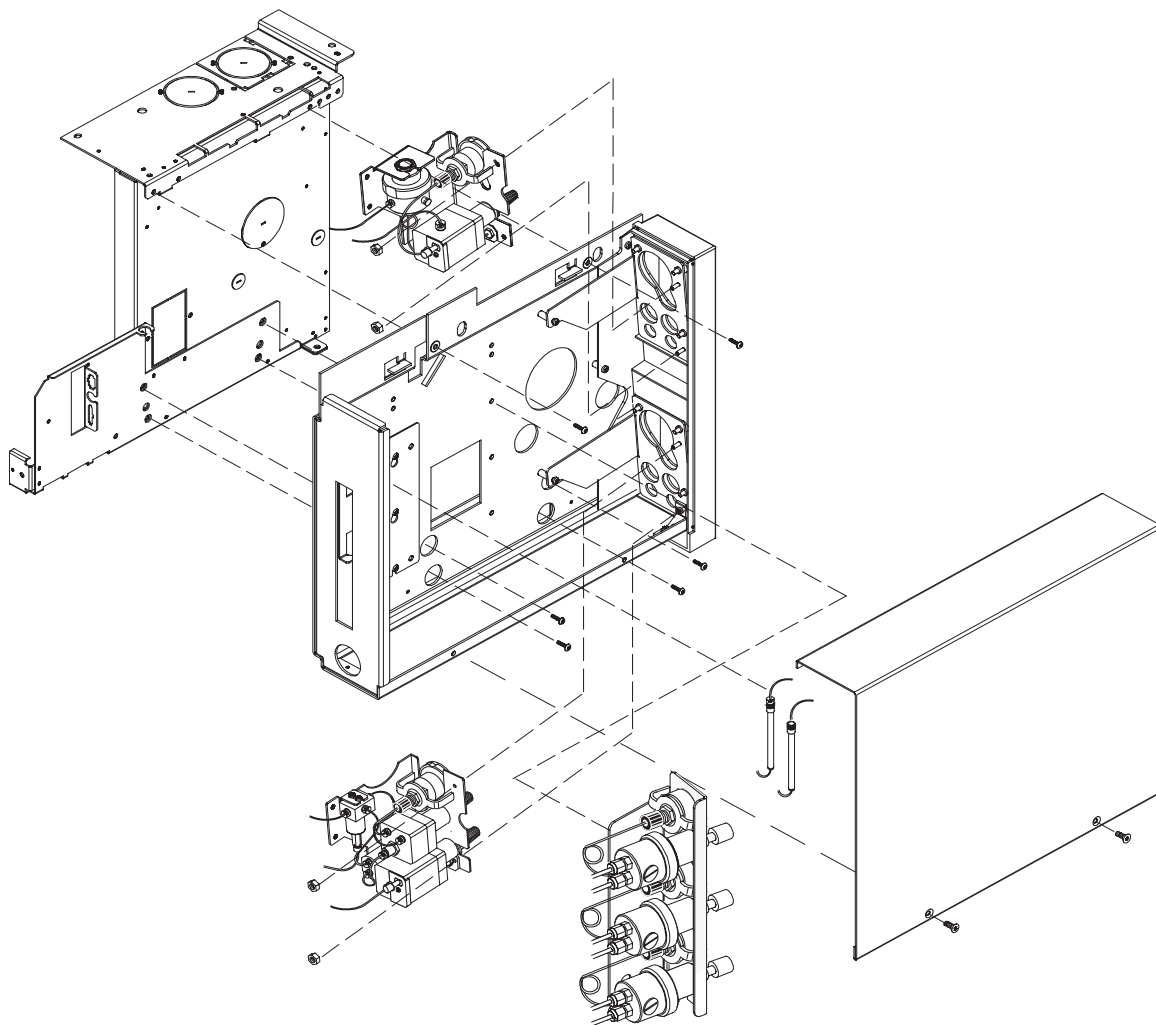
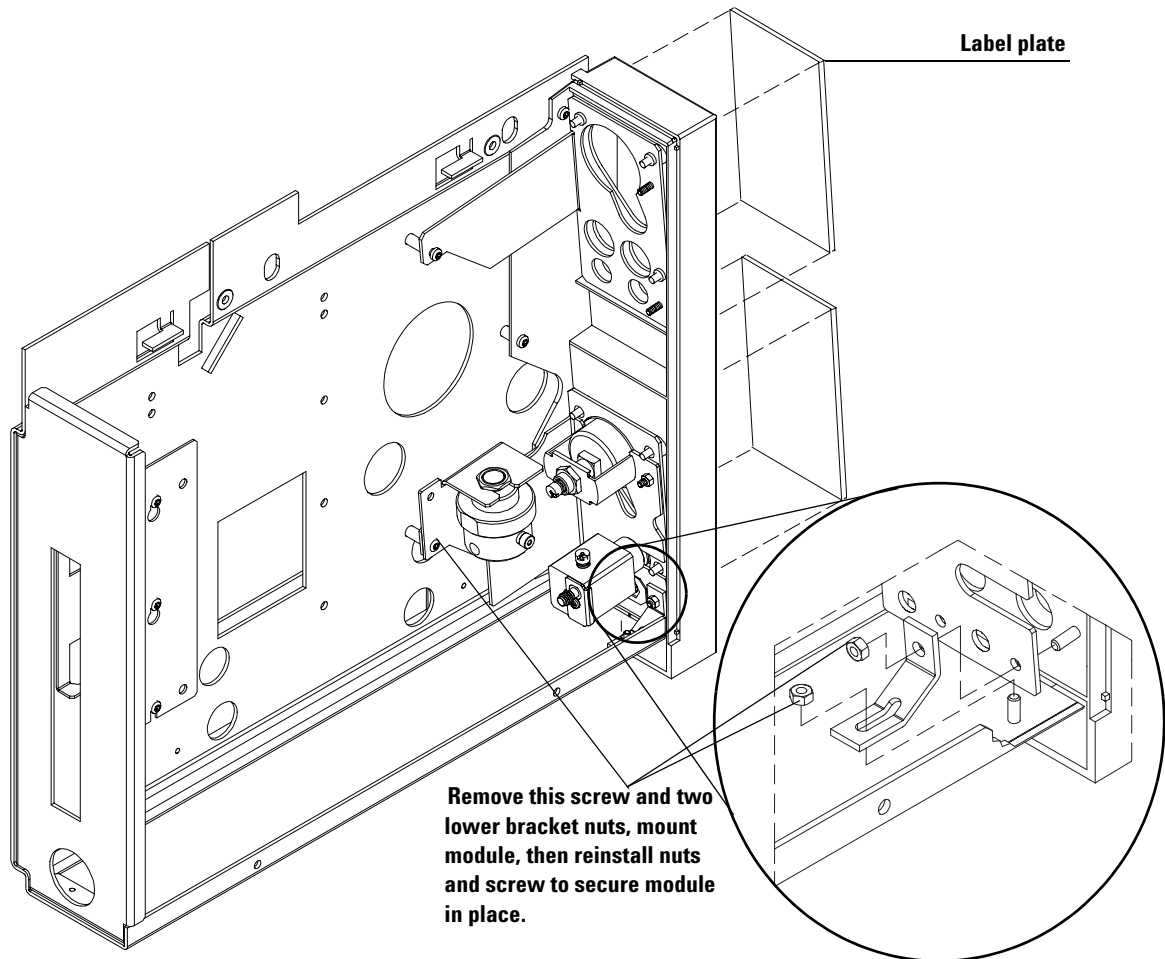

Figure 4 Exploded view of the side carrier assembly
Figure 5 Installing a flow module
- 2 To install a flow module, refer to Figure 4 and Figure 5. (See also any documentation provided with the flow module.)
- 4 After installing a flow module, remove the paper backing from the proper panel label and glue it on the front of the flow bezel as shown in Figure 5. If you are not installing an inlet in the flow carrier, glue two blank labels onto the front of the flow bezel (see Figure 5).